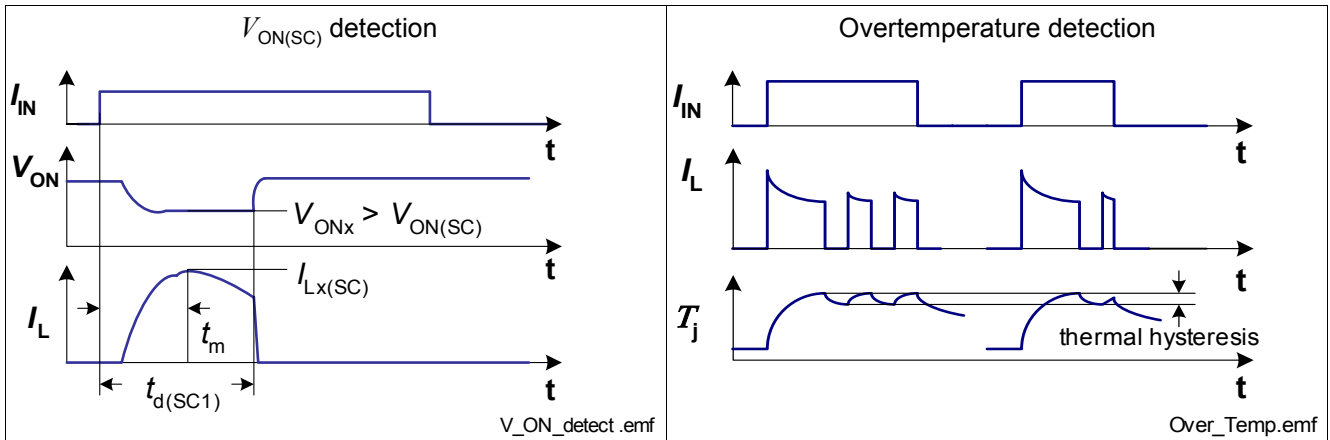

Figure 12 Overload Behavior
In the event that either the short circuit detection via $V_{ON(SC)}$ is not activated or that the on chip temperature sensor senses overtemperature before the blanking time $t_{d(SC1)}$ expired, the device switches off resulting from overtemperature detection. After cooling down with thermal hysteresis, the device switches on again. The device will react as during normal switch on triggered by the input signal. Please refer to **Figure 12** and **Figure 19** for details.
- 2) Short circuit current limit for max. duration of $t_{d(SC1)}$, prior to shutdown, see also Figure 12.